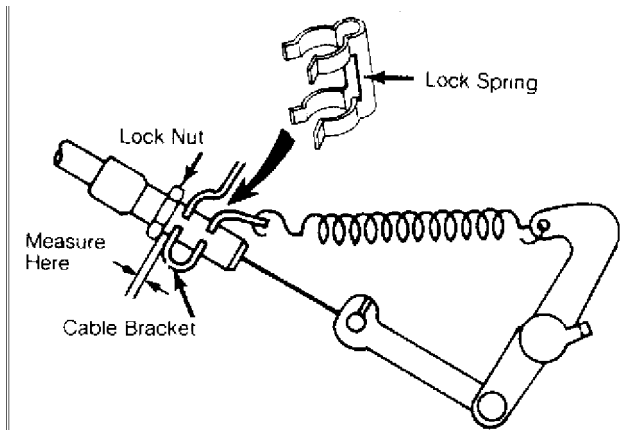

Fig. 6: Hot Start Assist Cable Adjustment
2) Check clearance between cable bracket and lock nut on cable. See Fig. 6. Clearance should be .02-.08" (0.5-2.0 mm). Adjust by turning lock nut, then install lock spring securely on cable.